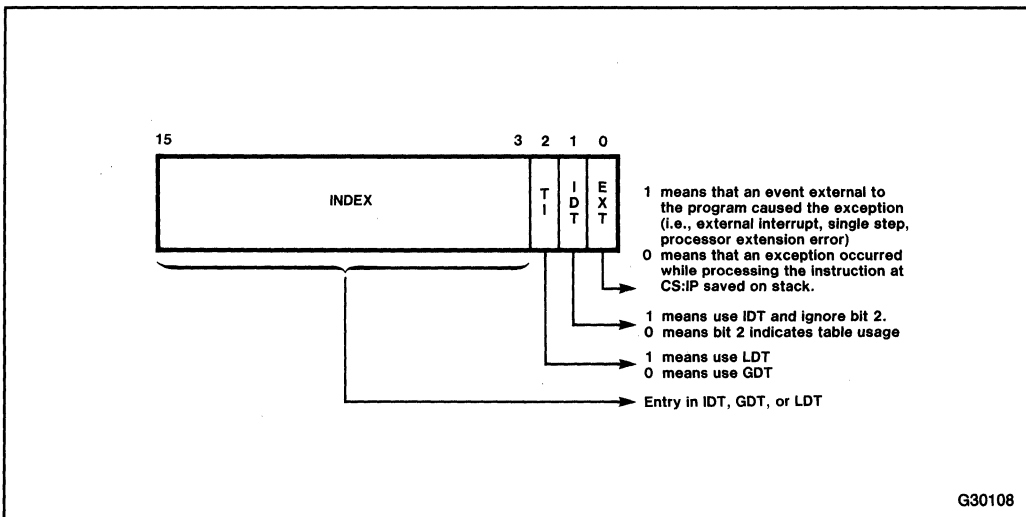

Figure 7-5. Error Code Format (on the stack)
Any attempt by a program to load a segment register, local descriptor table register (LDTR), or task register (TR) with a selector that refers to a descriptor outside the corresponding limit causes an exception with an error code identifying the invalid selector used (see figure 7-5).
Data may be accessed in data segments or readable code segments. When DS or ES is loaded with a new selector, e.g., by an LDS, LES, or MOV to ES, SS, or DS instruction, the bits in the access byte are checked to verify legitimate descriptor type and access (see table 7-2). If any test fails, an error code is pushed onto the stack identifying the selector involved (see figure 7-5 for the error code format).